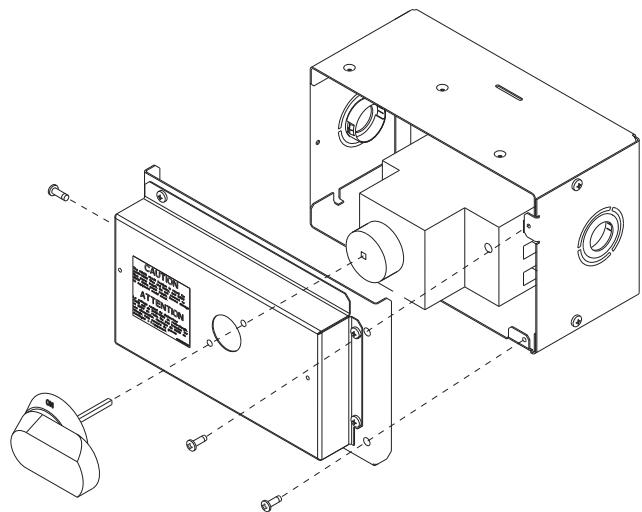

Fig. 26 — HACR Handle and Shaft Assembly
5. Insert the shaft all the way with the cross pin on the top of the shaft in the horizontal position. See Fig. 26.
9. Secure the handle to the painted cover with (2) screws and lock washers supplied.
10. Engaging the shaft into the handle socket, re-install (3) hex screws on the HACR enclosure.